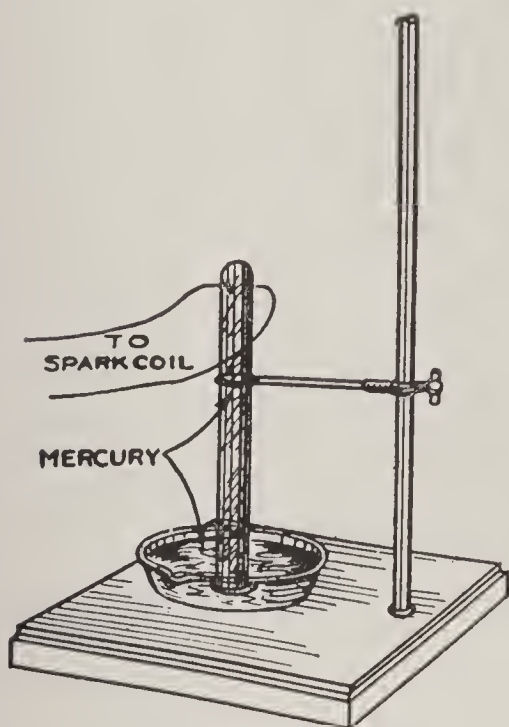

FIG. 76.—The Eudiometer Ready for the Experiment.
there will be no air in it, then invert it in a bowl of mercury (Hg) and keep it in an upright position with the aid of the ring-stand, as in Fig. 76. The next step is to place the free end of the delivery tube of your oxygen generator, which is shown in Fig. 42, under the mercury (Hg) and in the mouth of the eudiometer, and pass enough oxygen (O) into it to displace about 1 inch of the mercury (Hg). This done,